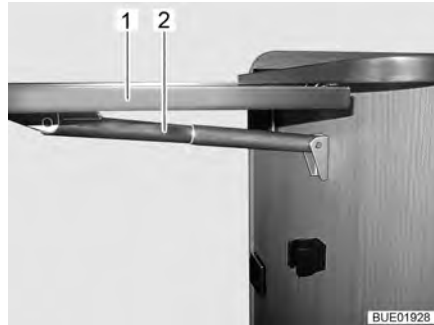

Fig. 47 Folding worktop
- Hold the folding worktop (Fig. 47,1) from below and pull gently to release it from the lock position.
- Swing up the worktop until the fixture of the telescopic holder (Fig. 47,2) engages. Let go of the worktop.